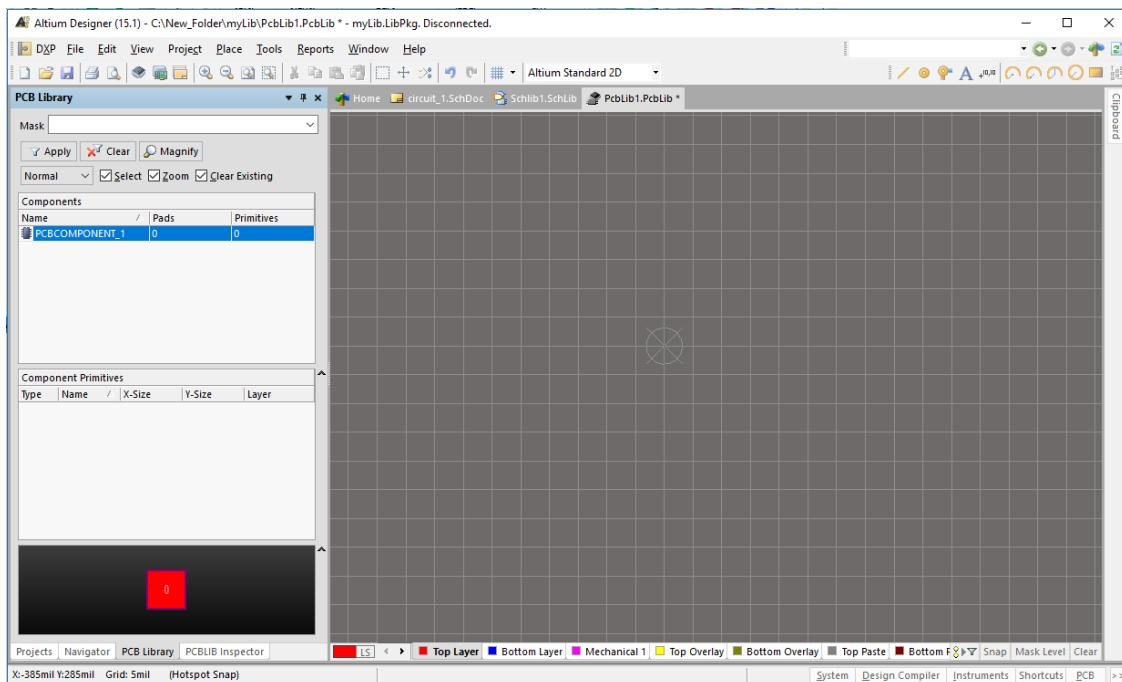
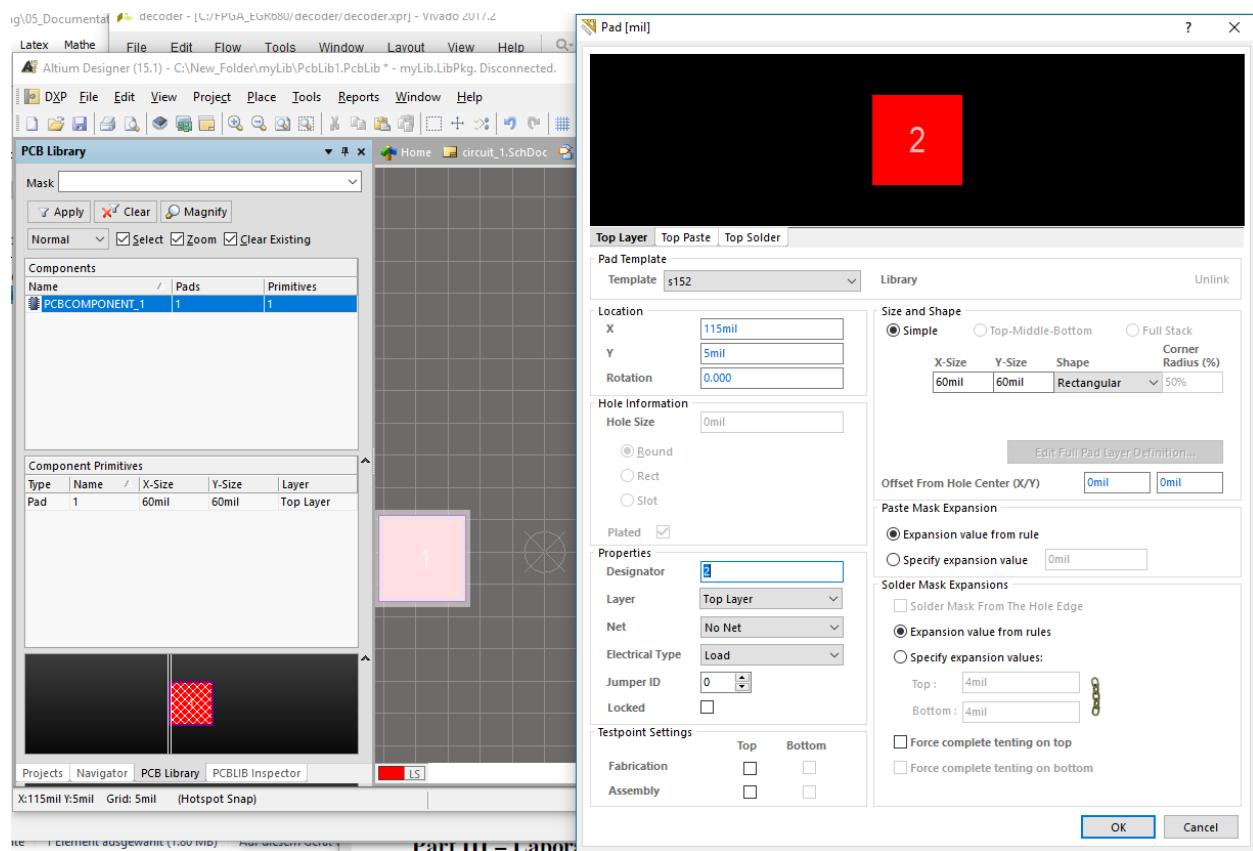

Figure 29: Altium empty PCB Library.
Figure 30: Altium PCB Library view to the left and Pad Dialog to the right.
18. Open the PCB Library document to layout a footprint for the resistor for what you made the symbol, the empty PCB Library should look similar to Figure 29. First place a pad by pressing P for place than P again for selecting pad than press **TAB** to open the pad dialog, which is shown in Figure 30. The pad dialog allows you to customize the pad, because a pad can have different shapes, a hole, and much more. For now because we make the footprint of an 0805 surface mount resistor according to the recommended land pattern from Vishay, shown in Figure 31 and we will design it for reflow and not wave soldering. Note, that the units are metric not imperial. Altium is able to handle that so most values you will use are in mil and are by default used as mil but you can use any unit so in this case millimeter (mm) to do so just write the unit behind the value you wish to set as shown in Figure 32 in the part Size and Shape. As long as you not have placed the pad onto the document don't change anything under location, rather close the dialog and place the pad press escape than double left click on the placed pad to open the dialog again and set the location according to the Vishay land pattern. Take your time by doing so and calculate the correct values where to place the pad that saves you time because the second pad is symmetrical to the first one and you will use copy and place to make the second pad. Select pad no. 1 by one left mouse click and press **CTRL+C** after that you will see a cross appearing as your mouse and the next one left mouse click sets a reference point that is used for rotation of the selected object. Set the reference point onto the center point($x = 0, y = 0$, usually shown somewhere on the top but can be modified as well if not the with shortcuts) and do one left mouse click, most of the time it helps as you zoom in (**CTRL+Mouse wheel**) or change the grid size (Press **G** and chose **grid** out of pop up menu, notice the grid option is different in PCB Library document then in an SCH Library document). Now use **CTRL+V** to paste the copied pad, you will notice the offset to the mouse position as you set the reference not in the middle of the part but in the center of the sheet. To rotate the pad around the reference point hit **SPACE**, each stroke will rotate counter clockwise by 90° angle. Next you change the Designator of the copied pad by opening the pad dialog and change it to 2, if you did everything right and calculated the right position according to the Vishay land pattern it should look as shown in Figure 33. By the way the reason why the package 0805 is called so is that 08 refers to the length in deka mils so 80 mils in length and 05 refers to the width in deka mils so 50 mils, be aware that there is a similar naming convention for the same package in metric units and not imperial units.